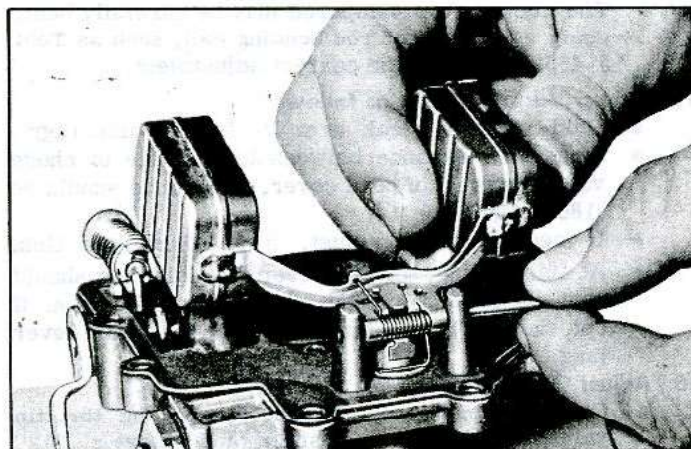

Fig. 10—Replacing Floats
9. Install a new gasket and replace float and pin (fig. 10). Check float level and float drop with Tool J-21614 as follows: